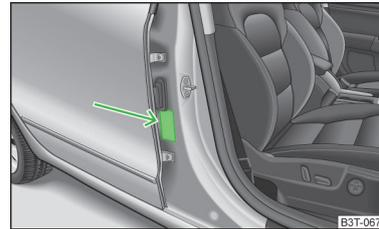

Fig. 14
- On the B-column on the front passenger side » Fig. 14. The sticker is visible upon opening the front passenger door.